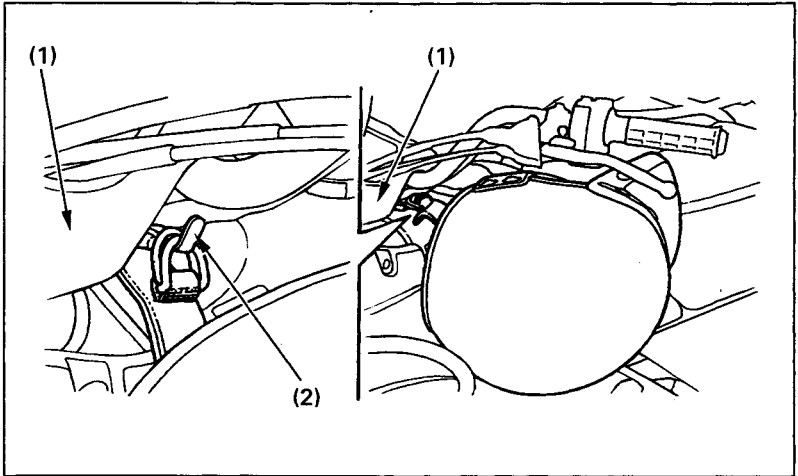

Fig. 2-20 (1) Handlebar cover (2) Helmet holder
The helmet holder (Fig. 2-20) is a bracket near the left side of the handlebar cover (1). To use the holder, hang the D-ring on your helmet strap over the bracket. Use the helmet holder only when the FOURTRAX is parked.